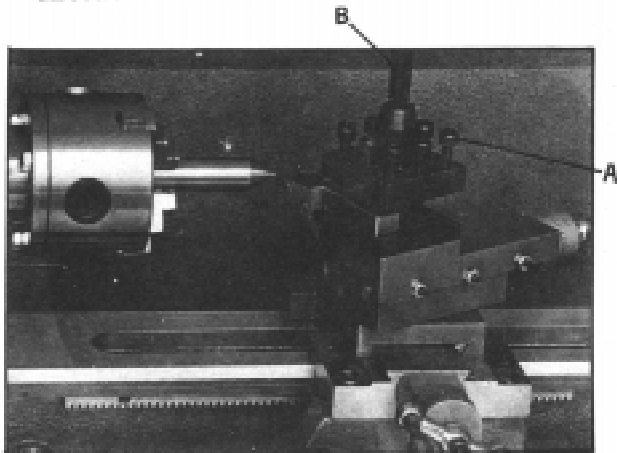

Fig. 11
Loosen the lever shown in (B) of figure 11, to adjust the tool post position. Once the adjustment is made, re-tighten the lever. To replace the work cutter, loosen the screws shown in (A) of figure 11.